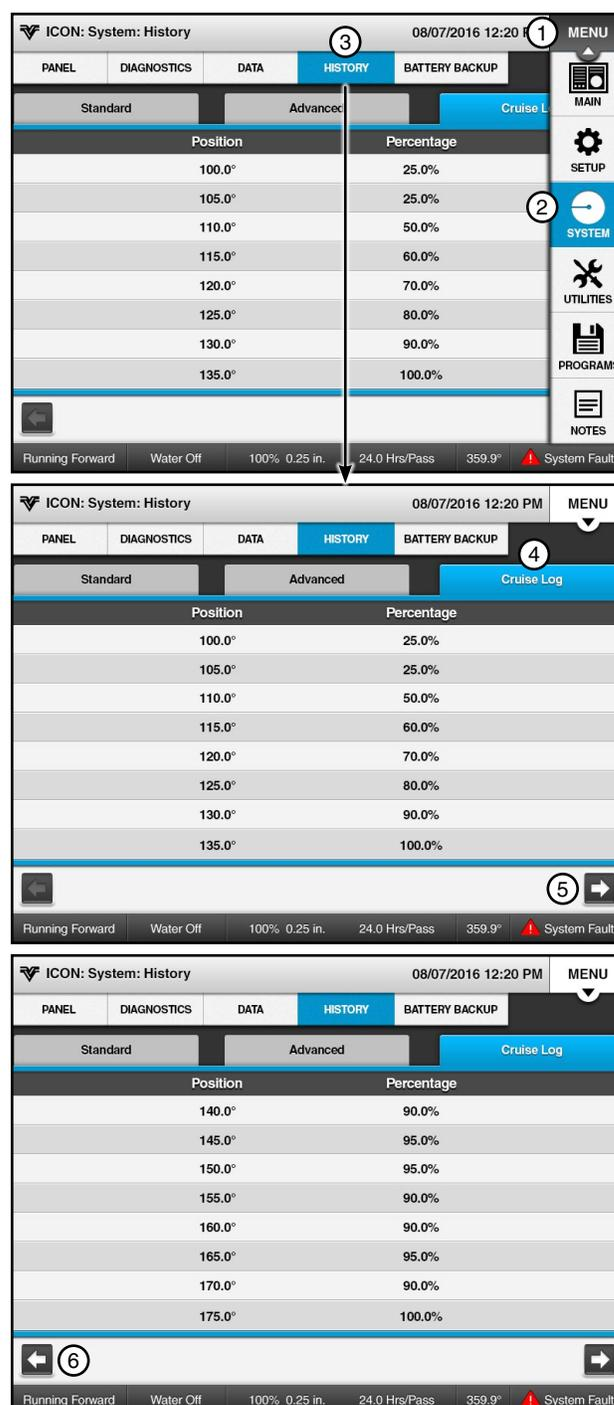

Figure 69-1 1. Menu 4. Cruise Log
1. To view the Cruise Log, push **Menu, System, History, Cruise Log**. See Figure 69-1.